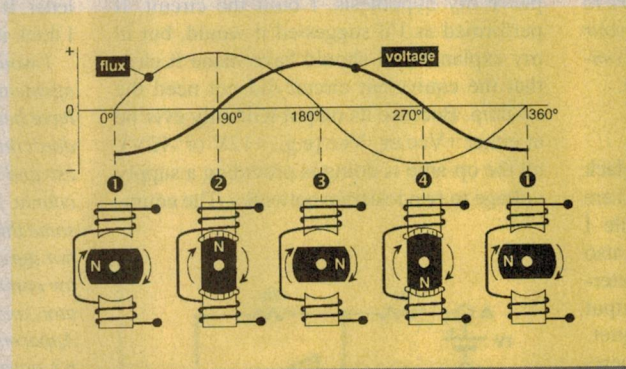

Fig.1: This diagram shows the relationship between magnetic flux, output voltage and the position of the rotating magnet relative to the coils.
1. The diagram in Fig.1 is correct for an unloaded alternator. That is, you get minimum voltage when the magnets are in line with the coil pole pieces, as the rate of change of the flux is at a minimum.